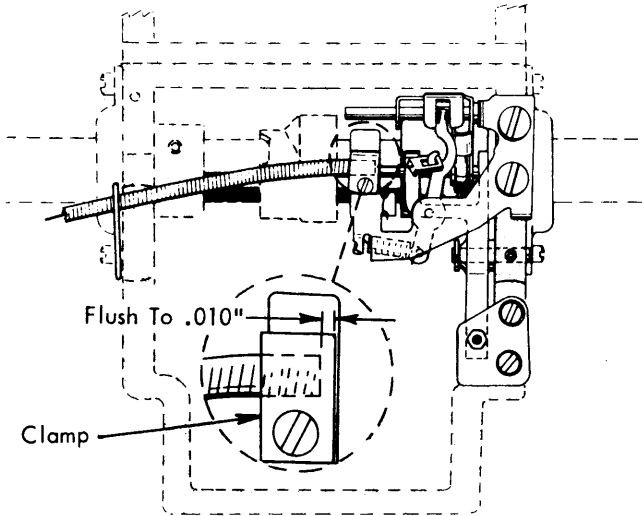

FIGURE 85. Carrier Cable Clamp
- a. **Carrier Cable Clamp** - Loosen the clamp screw and slide the cable sheath left or right under the clamp until the end of the sheath is flush to .010" recessed with the right hand edge of the clamp (Fig. 85). This adjustment prevents the yoke actuating lever from choking off against the cable sheath.